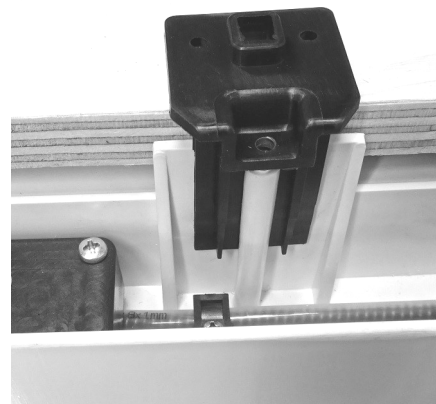

Figure 3
5. With the hatch sitting in the hole, test fit the black mounting clamps (all 11 of them) all the way around to ensure that they are the correct length to draw up tight against the roof. These clamps are designed to be trimmed if needed to accommodate a wide range of roof thicknesses. Unless you ordered a special roof thickness kit from Tern Overland, your hatch will fit into roofs from 1 1/4" to 2 3/4". If trimming is required on the clips, use a hacksaw to carefully cut them. Some of the clamps may need to be shorter than others. The clamps should be slightly shorter than the span they will be drawing up. See Figure 3.